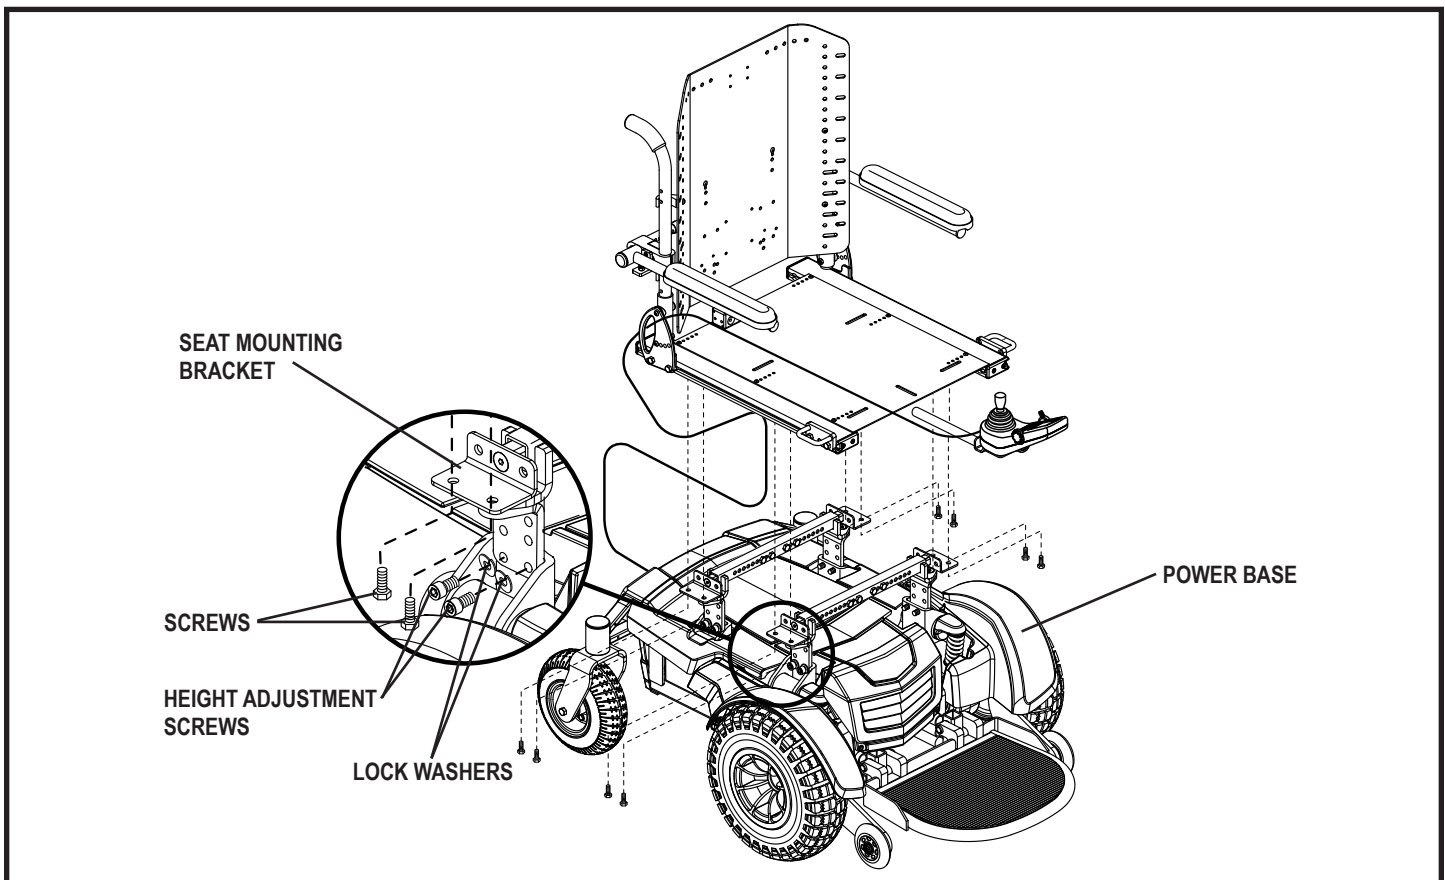

Figure 5. Seat Installation/Removal on Quantum/Jazzy 1450
1. Remove the screws from the four seat mounting brackets. **See figure 5.**
2. Lower the seat so that the rails rest on the four seat mounting brackets. Install the screws through the seat mounting bracket and into the T-nuts installed into the bottom of the Synergy Seat rail. **See figure 5.**
3. Seat height adjustments can be achieved by removing the height adjustment screws. **See figure 5.** With the height adjustment screws removed, lift either the front or rear of the Synergy Seat and insert the screws through lock washers to set the seat at the desired height.